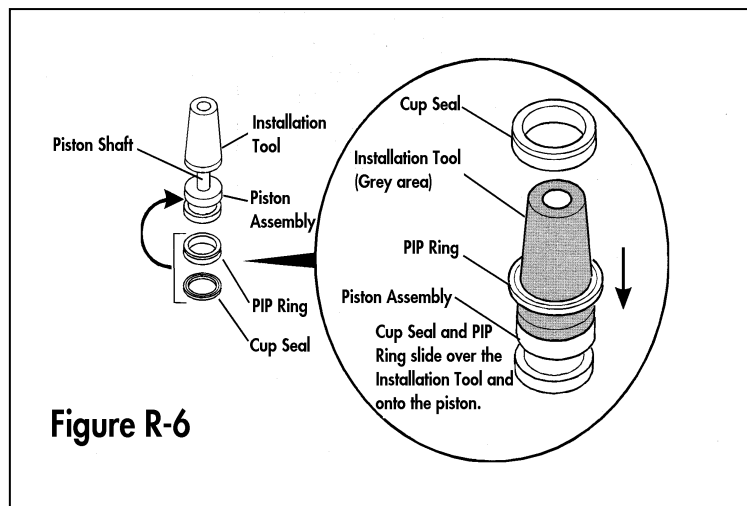

Figure R-6
2. Refer to **Figure R-6** during the following procedure. Place the piston assembly on a flat, stable surface with the shaft pointing up. Slide the installation tool (provided in the RSK) over the piston shaft with the wide end down. Lubricate the new PIP ring, cup seal and the installation tool with silicone grease. With the grooved side facing up, slide the PIP ring down the installation tool and onto the piston. Repeat this process for the cup seal. Note that the grooved side of the cup seal should be facing down; i.e., the grooved sides of the PIP ring and the cup seal should be facing each other. When finished with the installation, remove the installation tool from the piston shaft.